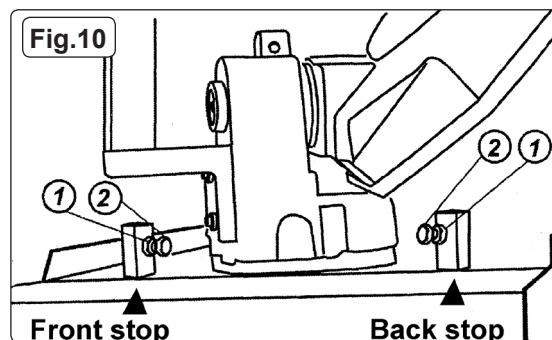

Fig.10
4.6 ADJUSTING THE BOW PIVOT TRAVEL LIMITS (See Fig.10)
4.6.2 The front stop seen in Fig.10 should be used to check that the blade is at 90° to the vice. Place a small set square between the blade and the fixed face of the vice. Loosen the hex nut '1' and wind the bolt '2' in or out until 90° is achieved. Tighten the hex nut '1'. Lock the main pivot using lever 'E'.
4.6.3 The back stop seen in Fig.10 limits the rotation of the bow to 60°. This is factory set and would not normally need adjusting. Do not allow the bow to pivot beyond 60°.